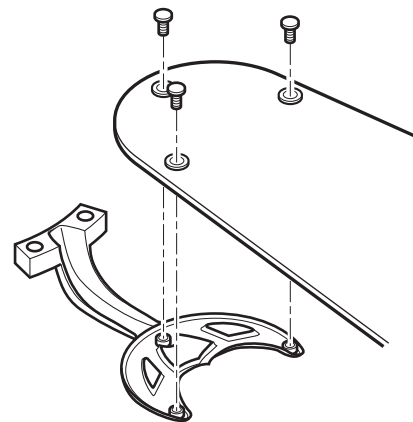

Figure 21 - Attaching the blade to the blade iron
- Attach each blade to blade iron using three blade assembly screws as shown in Figure 21.